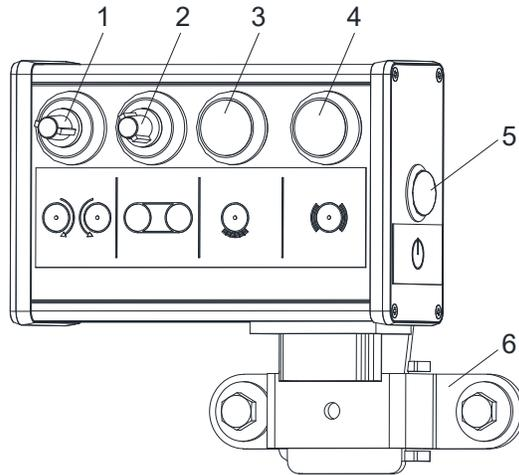

Fig. 34 PotiPro Compact operating device (hybrid)
- PotiPro Compact operating device (hybrid) (Fig. 34)
When the disc spreader is not hitched to a towing vehicle, the operating device is attached to a holder at the front of the hopper. A holder (Fig. 34/6) for the towing vehicle included in the scope of delivery enables the operating device to be attached to the towing vehicle. The disc spreader can then be operated from the towing vehicle.